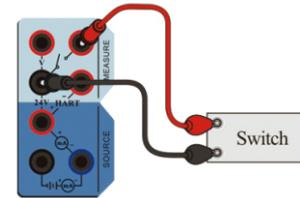

Figure 3-10 Switch test
- Connection: Complete the electrical connection as shown in Figure 3-10.